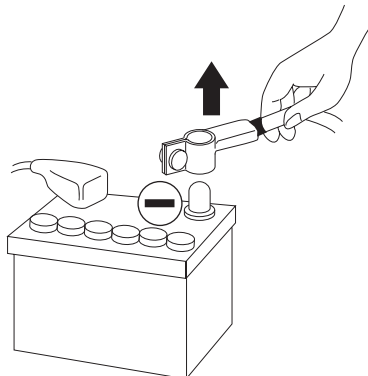

Fig. 1
- 2 - Disconnect the battery's negative wire before starting the installation. (**fig. 1**).
Before you begin the connection phase of set-up, remove the vehicle battery's negative (-) terminal (**fig. 1**).